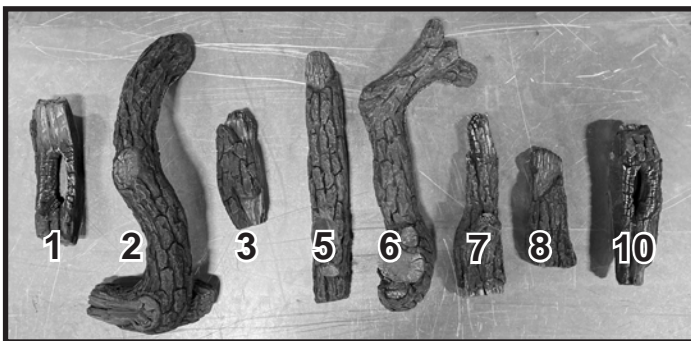

Figure 1A Log Identification - OAKLG-LIN-SM
**NOTICE:** To simplify the installation process, positively identify each individual log before beginning installation. See Figures 1A - 1F. The individual logs for the Traditional (OAKLG), Driftwood (DWLG) and Birch (BIRLG) log sets will install in a similar manner. The Driftwood logs are featured in the figures. Key log location features are shown in Figure 2. Logs are NOT installed in sequential order.